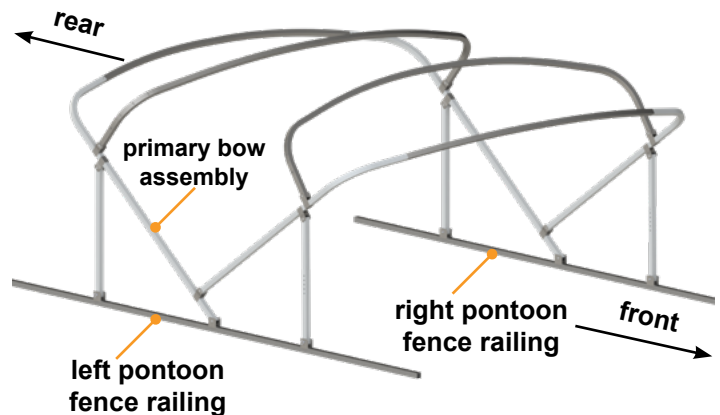

Fig.20
A. With the help of another person, position the frame assembly onto the top of the left and right fence rails at the desired location, making sure the primary bow assembly faces rearward (Fig.20).
NOTE: The adjustable support tubes should be facing towards the front of the pontoon (Fig.20).